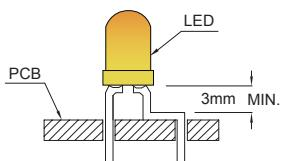

Fig. 5
1. Maintain a minimum of 3mm clearance between the base of the LED lens and the first lead bend. (Fig.5 and 6)